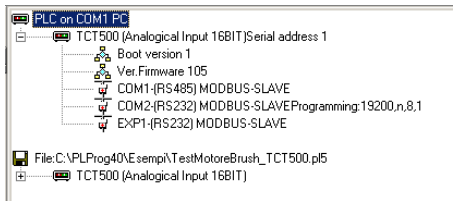

Figure 6.23: State window. The settings shown are for the connected PLC.
- The settings of the PLC physically connected to the PC (Figure 6.23).